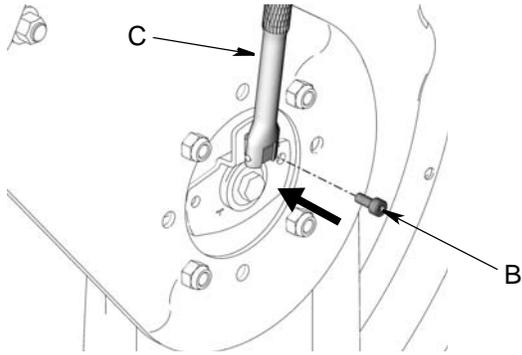

FIG. 23
5. Leave ratchet (C) in place. Replace one screw (B) (FIG. 23).